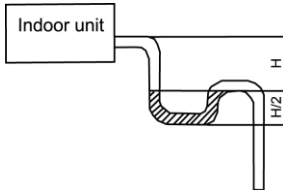

Fig. 4.21
- (5). If the air flow of indoor unit is high, this might cause negative pressure and result in return suction of outdoor air. Therefore, U-type water trap shall be designed on the drainage side of each indoor unit (Fig. 4.21).
- (6). Install one water trap for each unit.
- (7). Installation of water trap shall consider easy cleaning in the future.